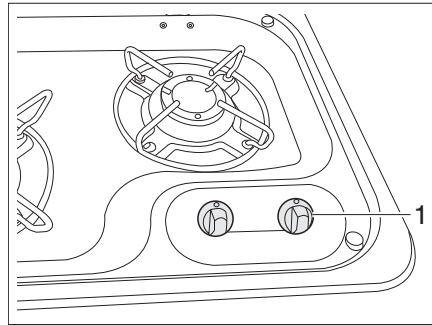

Fig. 88 Operating controls for gas cooker
- Turn the control knob (Fig. 88,1) on the burner you wish to use to the ignition position (large flame).
- Turn the control knob (Fig. 88,1) to the 0-position. The flame fades.